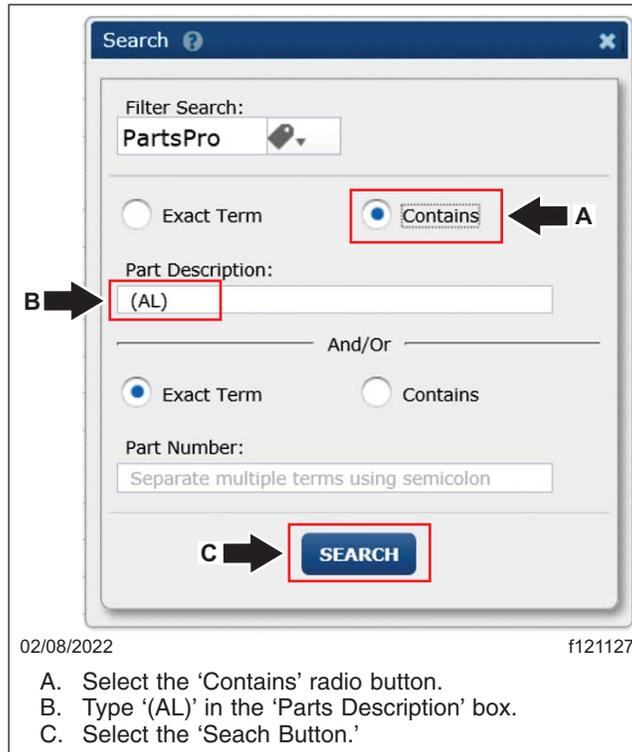

Fig. 3, Search Window
- The 'Search' window will be displayed. See **Fig. 3**. Select the 'Contains' radio button. Failure to select 'Contains' could result in non-consistent search results.
- Type '(AL)' in the 'Part Description:' box. Failure to type '(AL)' exactly could result in non-consistent search results. See **Fig. 3**.